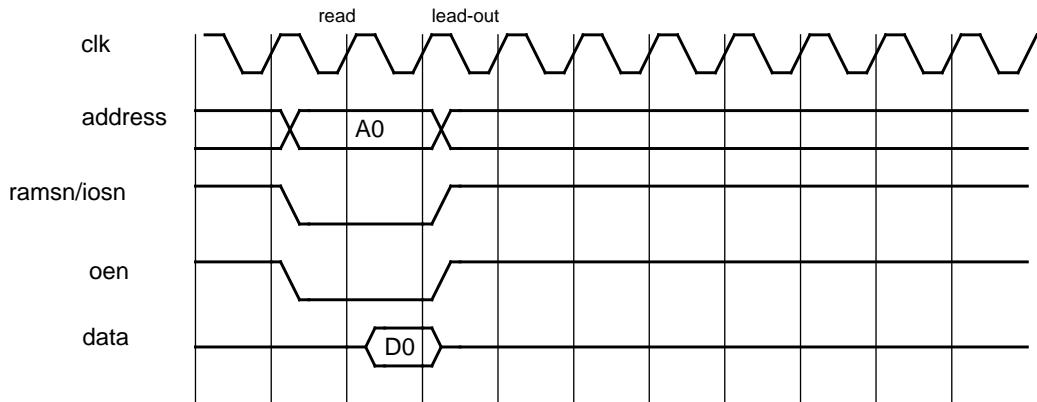
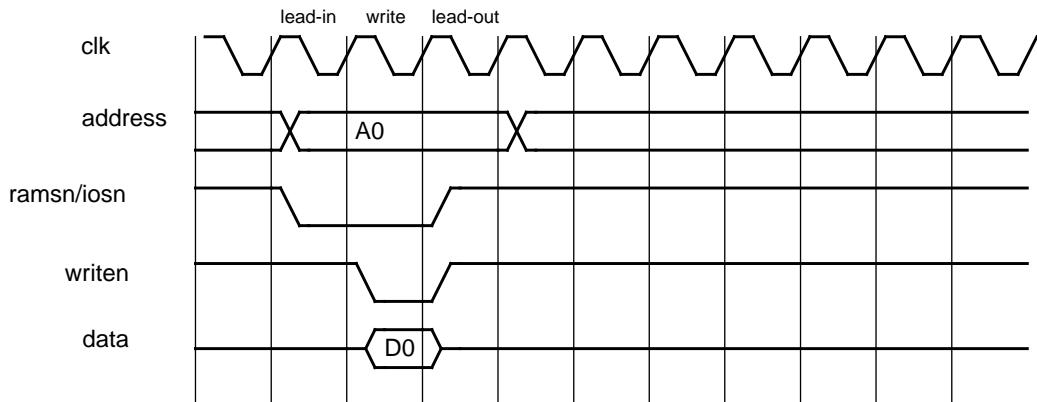

Figure 269. 32-bit PROM/IO read cycle
Figure 270. 32-bit PROM/IO write cycle
For the PROM and I/O operations, a number of waitstates can be inserted to increase the read and write cycle. The number of waitstates can be configured separately for the I/O and PROM address ranges, through a programmable register mapped into the APB address space. After a reset the waitstates for PROM area is set to its maximum (15). Figure 269 and figure 270 show timing diagrams for the PROM read and write accesses.
Read accesses to 32-bit PROM and I/O has the same timing, see figure 269
The write access for 32-bit PROM and I/O can be seen in figure 270